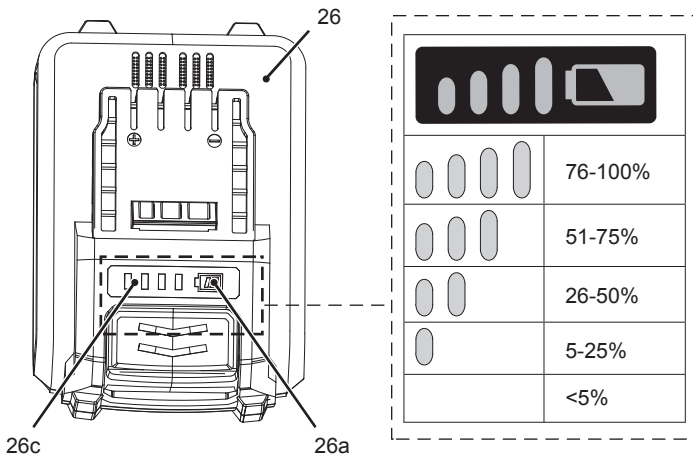

Fig. 11
The battery pack (26) is equipped with the battery capacity indicators (26c) which are used to give an indication of the battery pack’s remaining capacity. Press the battery capacity button (26a) to check battery capacity (Fig. 11). The LEDs will stay lit for approximately 5 seconds.